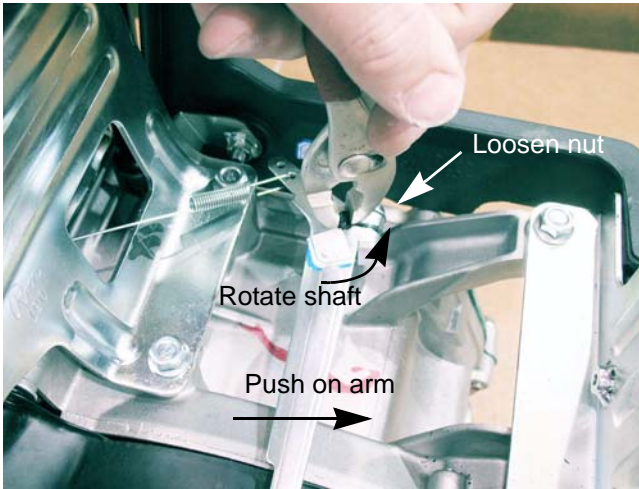

Figure 4.47
3. Pry open the governor arm crimp with a flat head screwdriver. See Figure 4.47.